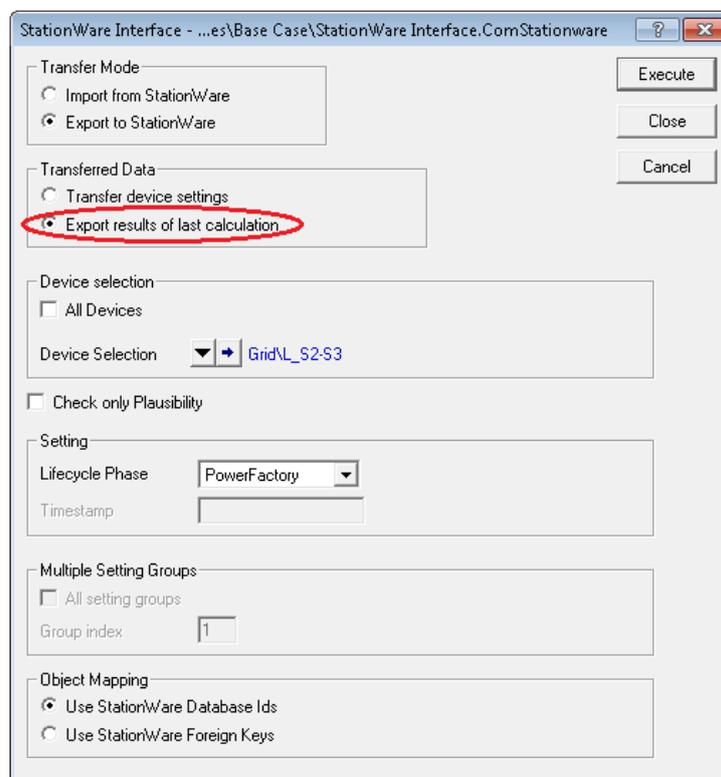

Figure 3.12: Export dialog from *PowerFactory* to *StationWare*
*PowerFactory* 15.2 has enhanced the *StationWare* Interface, making it possible to transfer calculation results from *PowerFactory* to *StationWare*. A new option is provided in the *StationWare* Interface command, as shown in Figure 3.12.